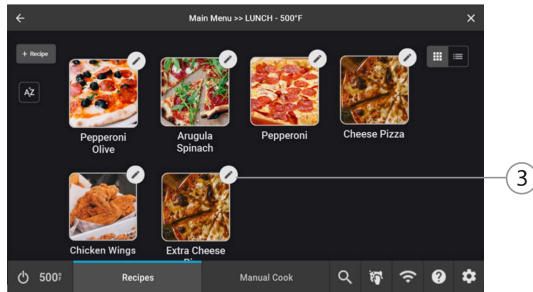

Figure 34: Select Recipe to Edit
3. Touch the Edit Pencil button for the group you want to edit (Figure 34, above).